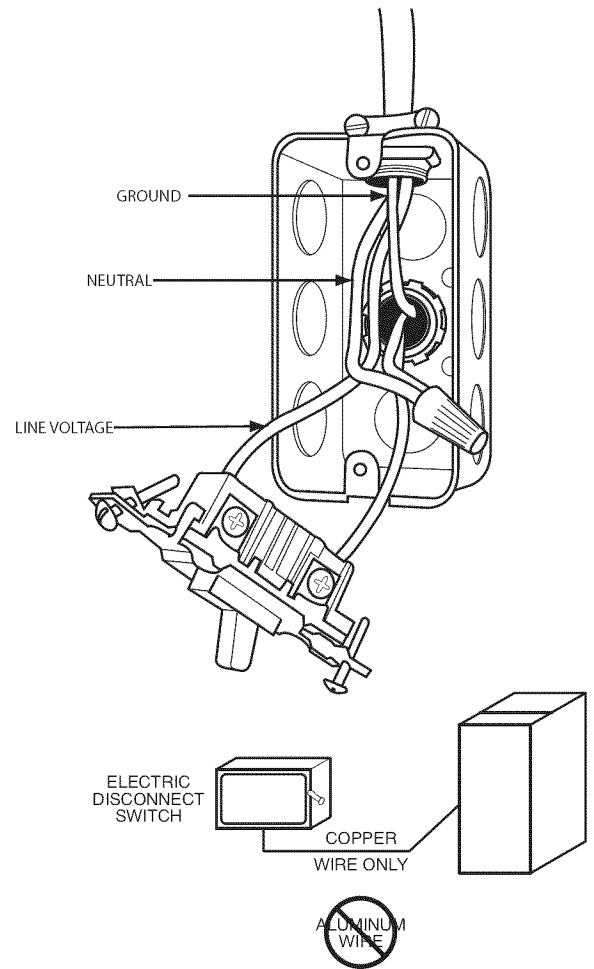

Fig. 32 - Field-Supplied Electrical Box on Furnace Casing
Do not connect aluminum wire between disconnect switch and furnace. Use only copper wire. See Fig. 32.
1. Fasten a field-supplied external electrical box to the outside of the casing by driving two field-supplied screws from inside electrical box into casing. (See Fig. 32.)
9. Complete external disconnect wiring and installation. Connect line voltage leads as shown in Fig. 32. Use best practices (NEC in U.S.A. for wire bushings, strain relief, etc., CANADA: Canadian Electrical Code CSA C22.1)